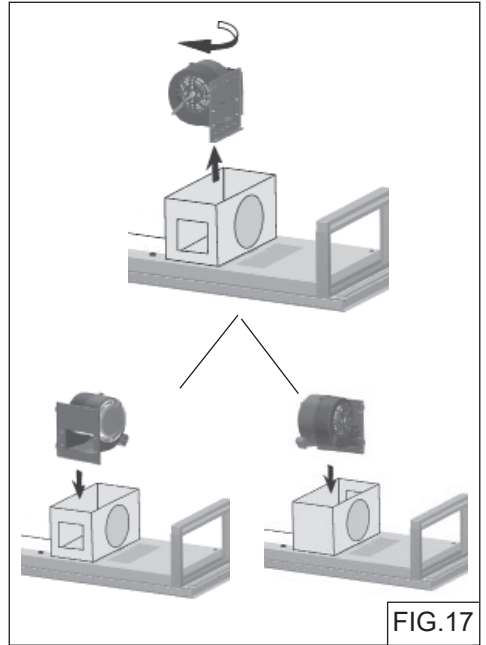

FIG.17
• Rotate blower 90 degrees and reinstall (2) screws (Fig.17). Reinstall blower box covers, damper and screws.